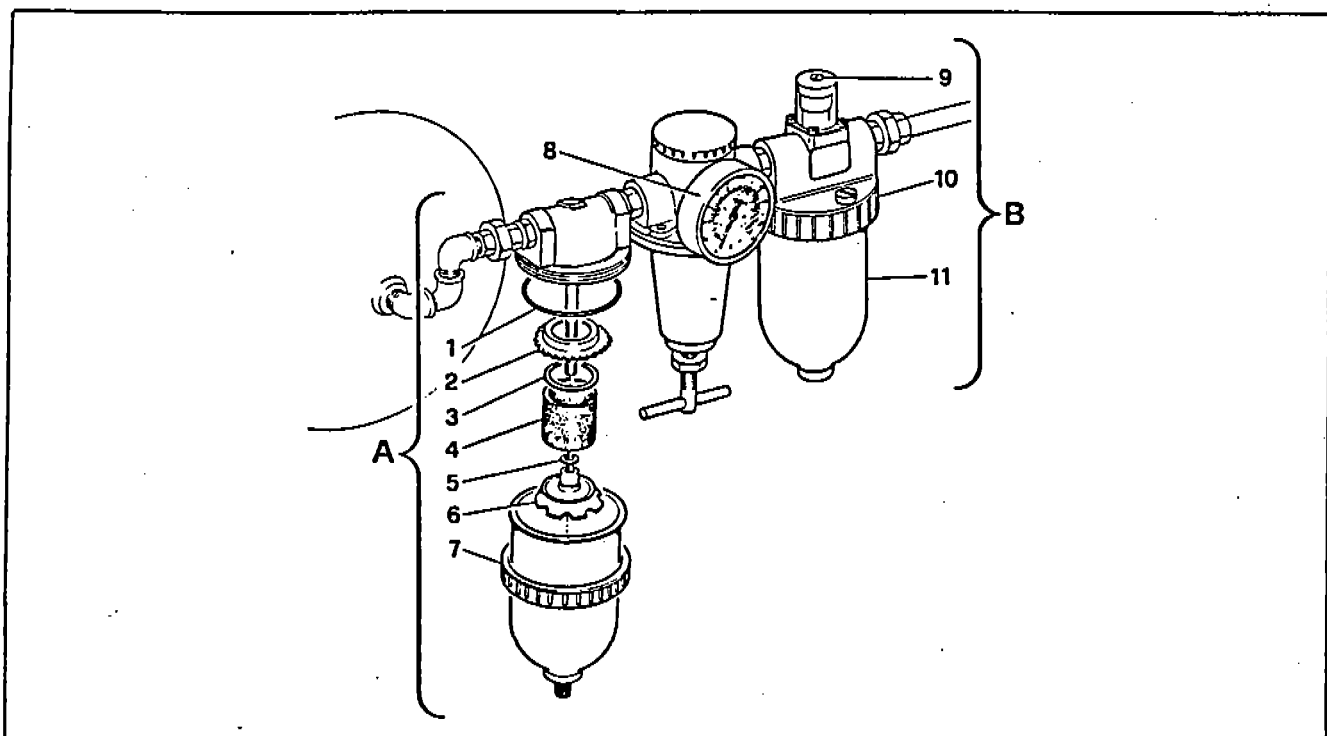

Fig. 9
(A-Fig. 9)
- a) Loosen the cup locking ring (7)
- b) Remove the filter locking plastic ring (6). The washer (5) should not be lost.
- c) Remove the washer (5) and filter (4). Take care of the filter top gasket (3).
- e) Assemble the unit, reversing the disassembly operations, tightening moderately the ring (6) by hand. Warning: the cup seal ring (1) should be positioned in its seat.
**GRUPPO FILTRO SEPARATORE DI CONDENZA** (A-Fig. 9)
**OILER (B-Fig. 9)**
- a) Unscrew the ring (11 Fig. 9) located on the top of the oiler.
**LUBRIFICATORE (B-Fig. 9)**
- a) Svitare la ghiera (10 Fig. 9), che si trova nella parte alta del lubrificatore.
- b) Riempire la tazza (11 Fig. 9) di circa 2/3 ed avvitare la ghiera.